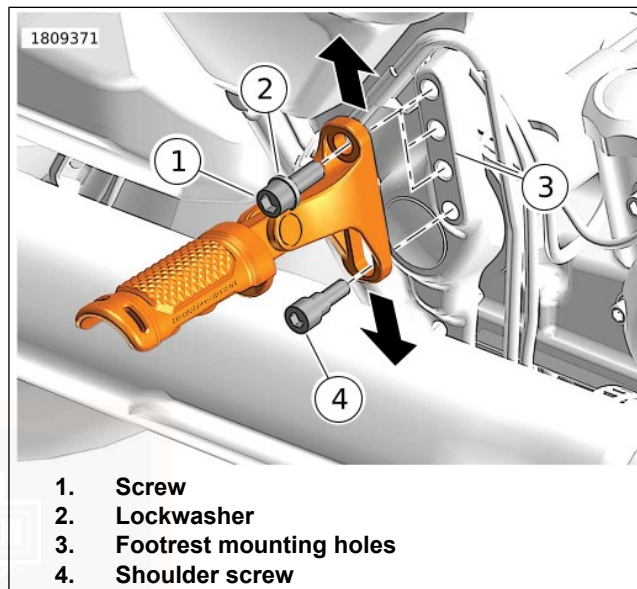

Figure 65. Passenger Footrest
1. See Figure 65. Remove upper bracket screw (1) and lock washer (2).